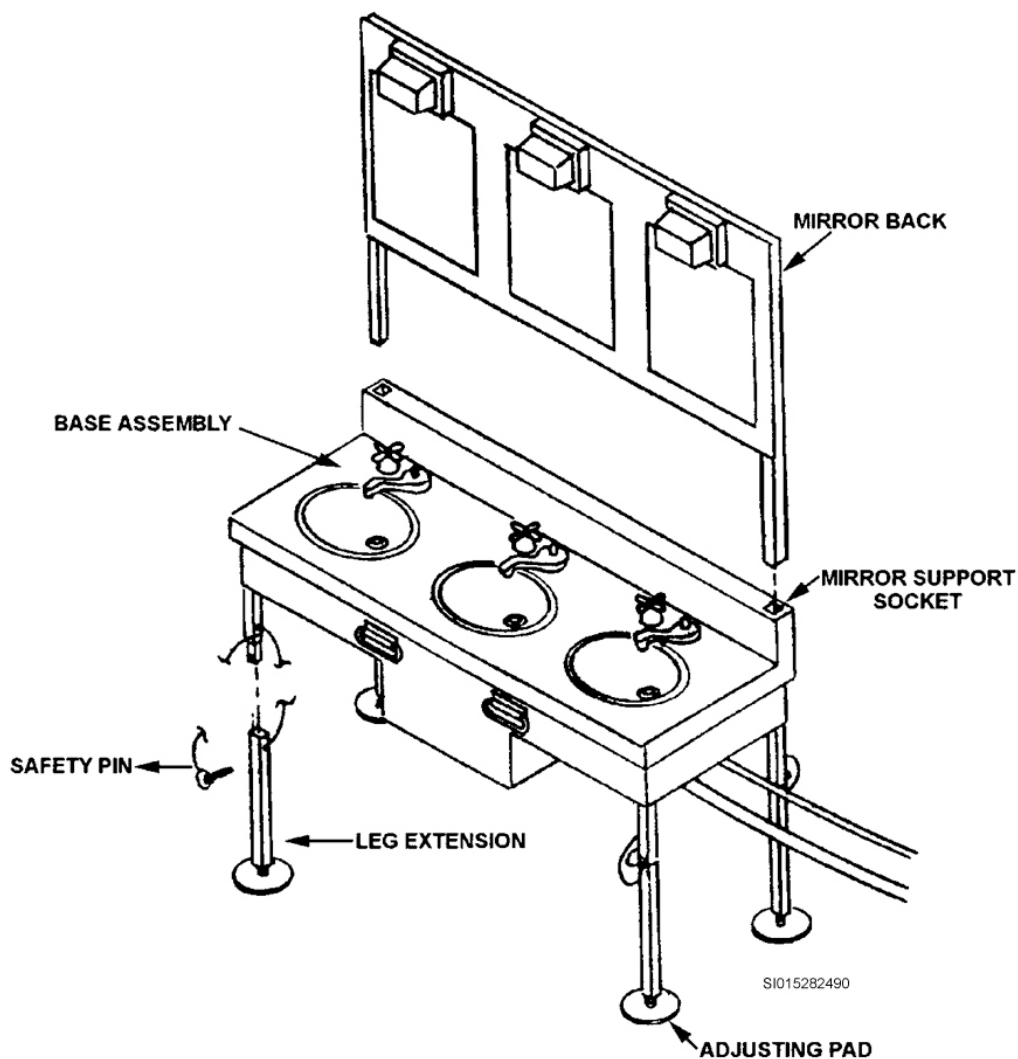

Figure 2-53. Shave stand.
1. A base unit with three sinks (fig. 2-53).
The shave stand base assembly, or base unit as it is normally referred to, consists of a stainless steel cabinet with three sink/faucet stations. Each base unit has mounting sockets for the mirror support assembly, removable legs, and four handles for ease of movement (two handles on each long side). The sinks themselves are also stainless steel, and each sink has a single on/off faucet. Each sink also has QD fittings for the water supply to the faucets and drains from the sinks. Straps are also provided on the underside of each base unit to store the legs during shipment. Safety pins (fig. 2-53) are used to lock the legs in place when the unit is set up.